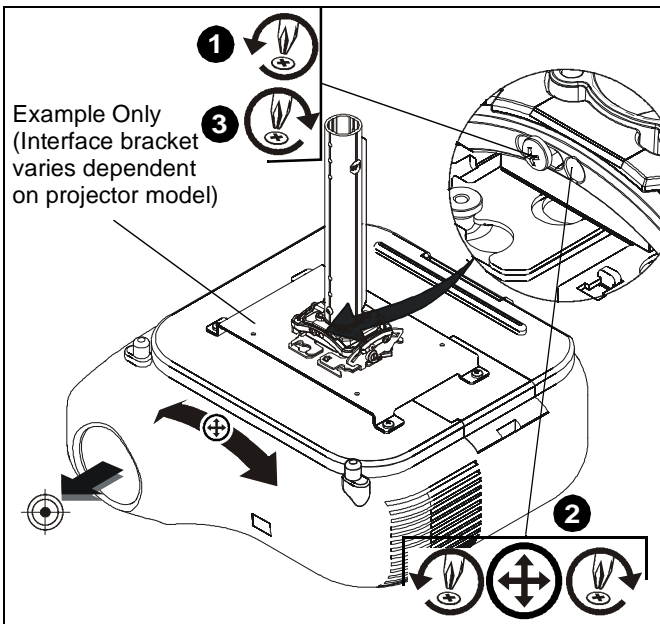

Figure 8
1. Loosen ROLL adjustment locking screw using a #2 Phillips screwdriver. (See Figure 8)
2. Turn ROLL micro-adjustment screw right or left using a #2 Phillips screwdriver until image is properly aligned on target. (See Figure 8)
3. Tighten ROLL adjustment locking screw using a #2 Phillips screwdriver. (See Figure 8)